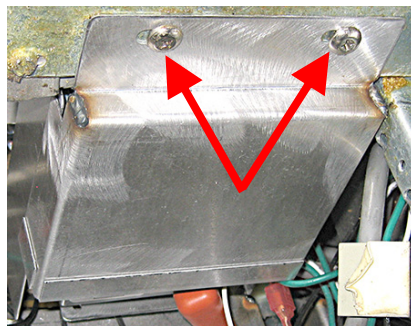
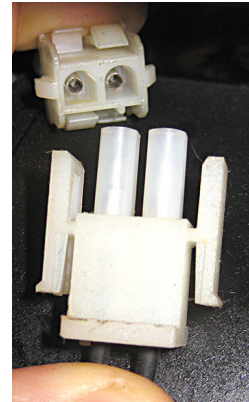

Figure 1
Figure 2
2. Remove the module cover by removing the two (2) screws securing the cover (see Figure 1).
4. Lower the controller by removing the two (2) screws.
5. Disconnect 2-pin blower power connection (see Figure 2).